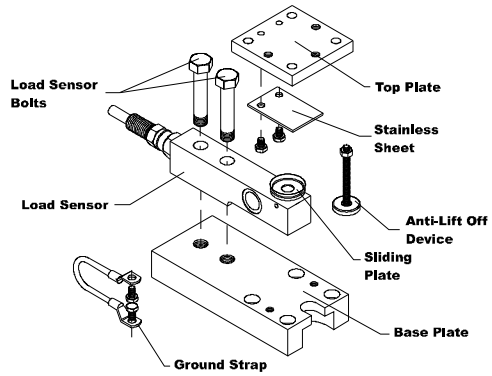

FIG. 23: EXPLODED ISO VIEW OF FREE SLIDING LOAD POINT ASSEMBLY
- Step 4. Use a box-end or crescent wrench to remove the two load sensor bolts that fasten the Load Sensor to the base plate. (See Figs. 23 and 24)
- Reinstall the ground strap and anti-lift-off device. (See Figs. 23 & 24)